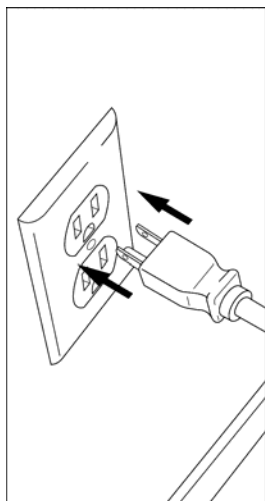

FIGURE 12
2. Plug power cord into a convenient 3-prong electrical outlet (FIGURE 12).